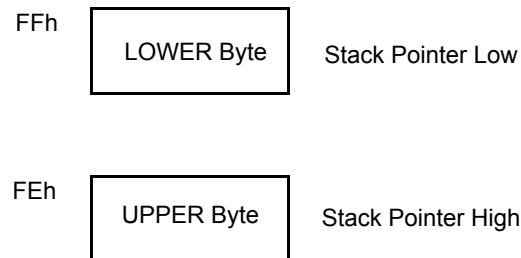

Figure 10. Stack Pointer
The register pair FEh and FFh form the 16-bit Stack Pointer (SP), that is used for all stack operations. The stack address is stored with the MSB in FEh and LSB in FFh; see Figure 10 on page 23.